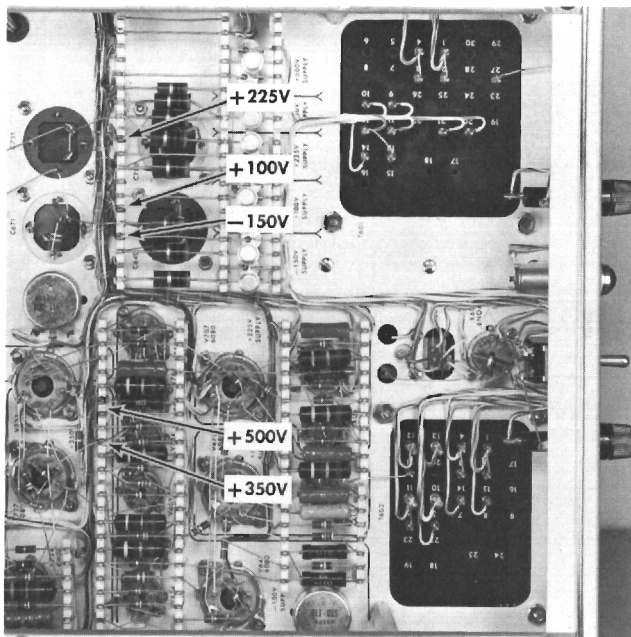
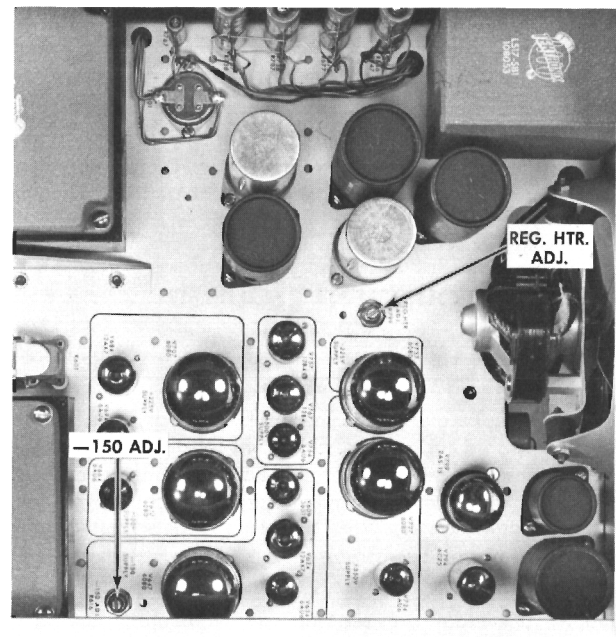

Fig. 7-2. Bottom view of the power supply showing the location of the test points.
Fig. 7-3. Top view of the power supply unit showing location of the power supply unit adjustments.
Measure the output voltage of the  $-150$  v,  $+100$  v,  $+225$  v,  $+350$  v and  $+500$  v supplies at the points indicated on the Power Supply Unit (see Figure 7-2). Be sure your meter is accurate (see Equipment Required, (1)). The output voltage of the  $-150$  v supply must be between  $-147$  v and  $-153$  v, and the other regulated supplies must be within 2% of their rated values. You should be able to set the  $-150$  ADJ. control (see Power Supply Unit, Figure 7-3) so that all of these voltages are within the specified tolerance. Bear in mind that the calibration of the entire instrument is effected by changes in the power supply voltages. Don't adjust the  $-150$  v unless one or more of the supplies is actually out of tolerance.